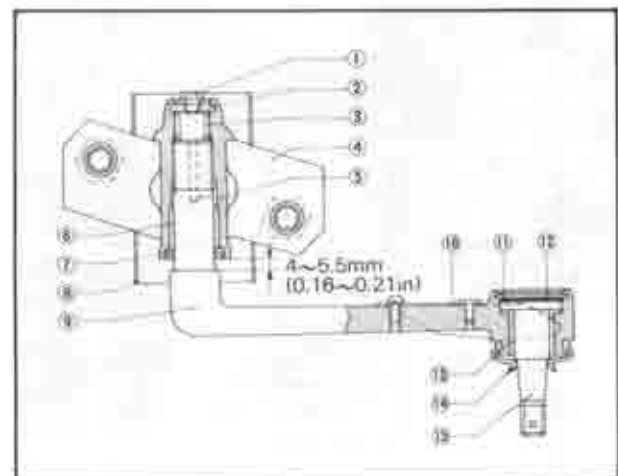

Fig. 10-24 Idler arm cross section
- a) Check the clearance between the idler arm edge and the idler housing end as shown in Fig. 10-24. The clearance should be $4.0 \sim 5.5 \text{ mm}$ ($0.16 \sim 0.21 \text{ in}$).